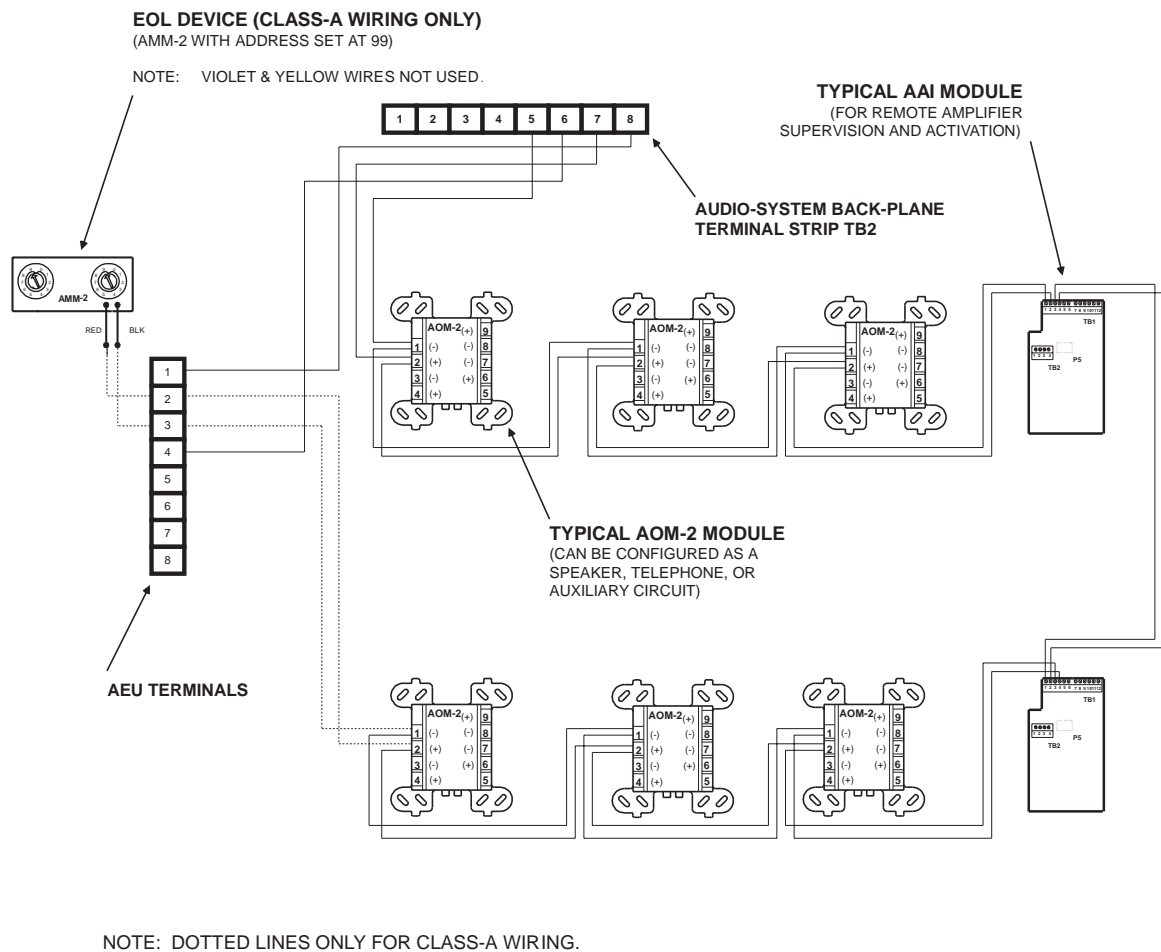

Figure 2-1
- Connect an electronic EOL device (consisting of an AMM-2 module, Address "99") (red and black wires) to the AEU as shown in Figure 2-1. (Yellow and violet wires are not used.)